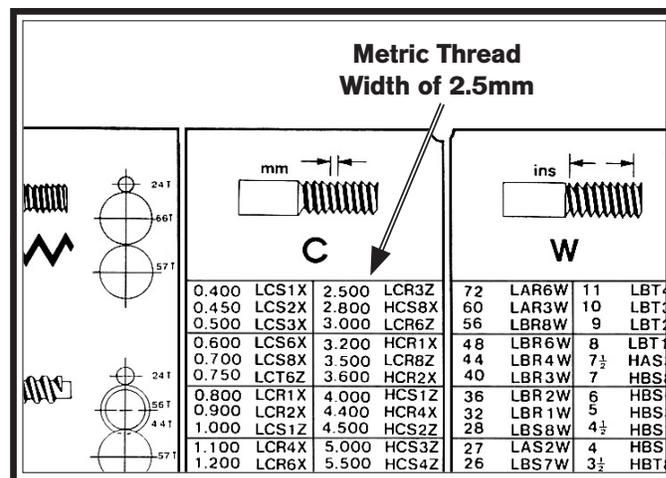

Figure 78. Metric thread chart.
- Locate the line in the metric thread chart that lists the setting for 2.5mm threads, as illustrated in **Figure 78**.